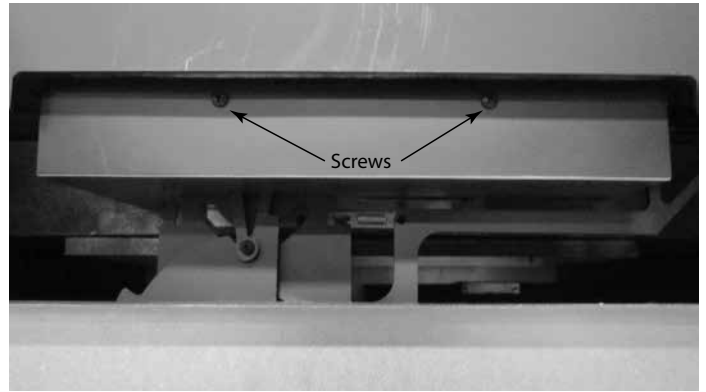

**Figure 4.25** Reinstalling Hairpin Clip and Washer
11. Install the washer and hairpin clip back on the rod. See Figure 4.25.